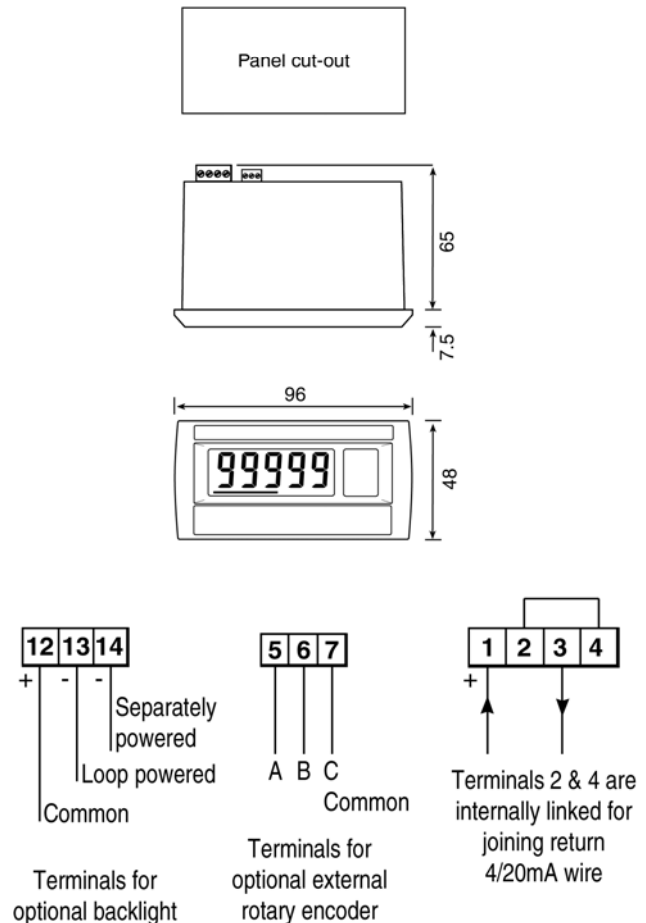

Fig 4 BA427E dimensions
Fig 4 shows the overall dimensions of the BA427E together with the recommended panel cut-out dimensions and terminal identifications. To achieve an IP66 seal between the instrument enclosure and the instrument panel an aperture with the recommended tolerance should be used.
- Cut the specified aperture in the panel. To achieve an IP66 seal between the instrument enclosure and the instrument panel the aperture must have the dimensions specified in Fig 4.
- Connect the panel wiring to the rear terminal block(s) as shown in Fig 4. To simplify installation, the terminals are removable so that the panel wiring can be completed before the instrument is installed.